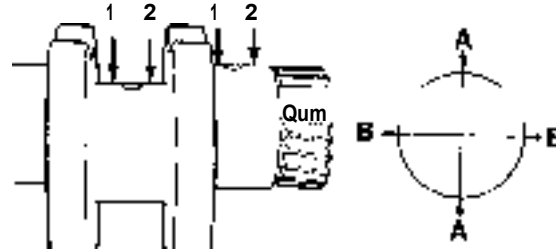

Fig. 72. Check measurement of crankshaft
1. Check the wear and out-of-roundness with a micrometer. Measure the diameters "A-A" and "B-B" in items "1" and "2" (See Fig. 72).
1. Measure the bushing's inner diameter at points 1 and 2 as per Fig. 72 on page 46. Measure in two directions ("A" and "B") at each point.